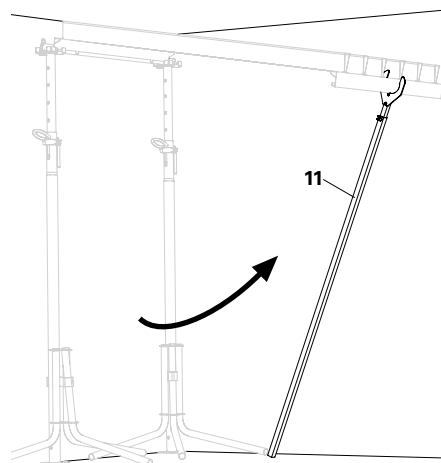

Fig. A4.03
3. Swivel it up using the shuttering aid (11) and leave it sitting on the shuttering aid. (Fig. A4.03)